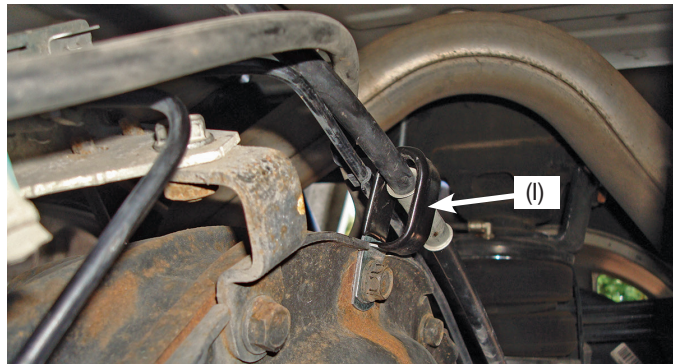

Fig. 8
12. Install the large frame clamp (I) over the emergency brake cable facing the rear with the hole down (fig. 8) and attach to the rear end using the stock bolt previously removed.